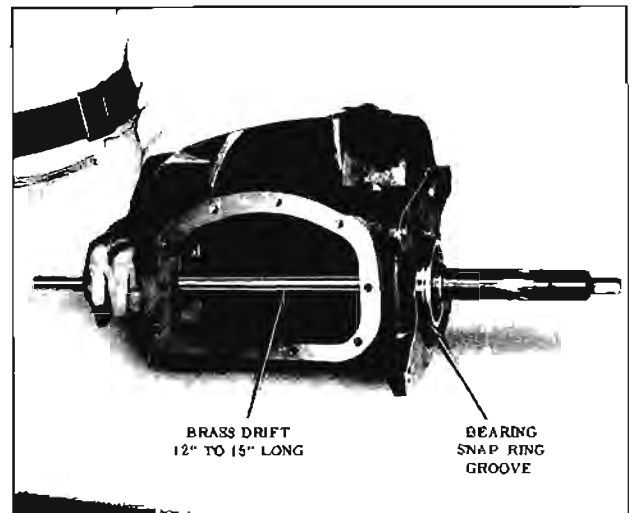

Fig. 11-229 Positioning Main Drive Gear Bearing in Case
8. Install the main drive gear and bearing assembly through the side cover opening and into the front of the transmission case. Tap lightly into position with a brass drift (12" - 15" long) and hammer until the snap ring groove in the bearing is exposed. (Fig. 11-229)